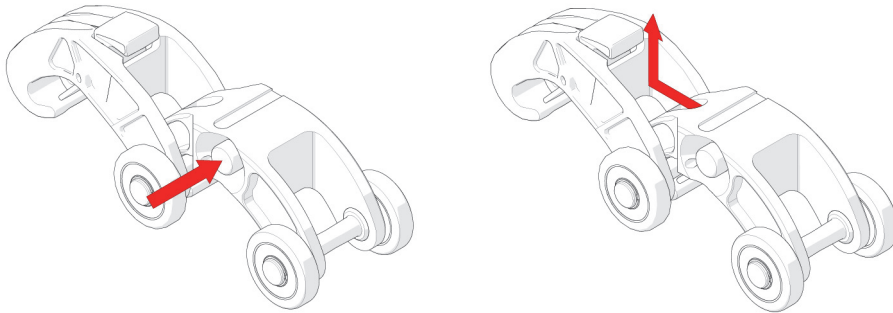

Figure 2-19 Disconnecting a dovetail QuickLink
1. Press the button on the side of the dovetail QuickLink (see Figure 2-19 on page 50).
2. While pressing the red button, slide the dovetail QuickLink forward and up, clearing the hook of the dovetail QuickLink from the second QuickLink's axle (see Figure 2-19 on page 50).